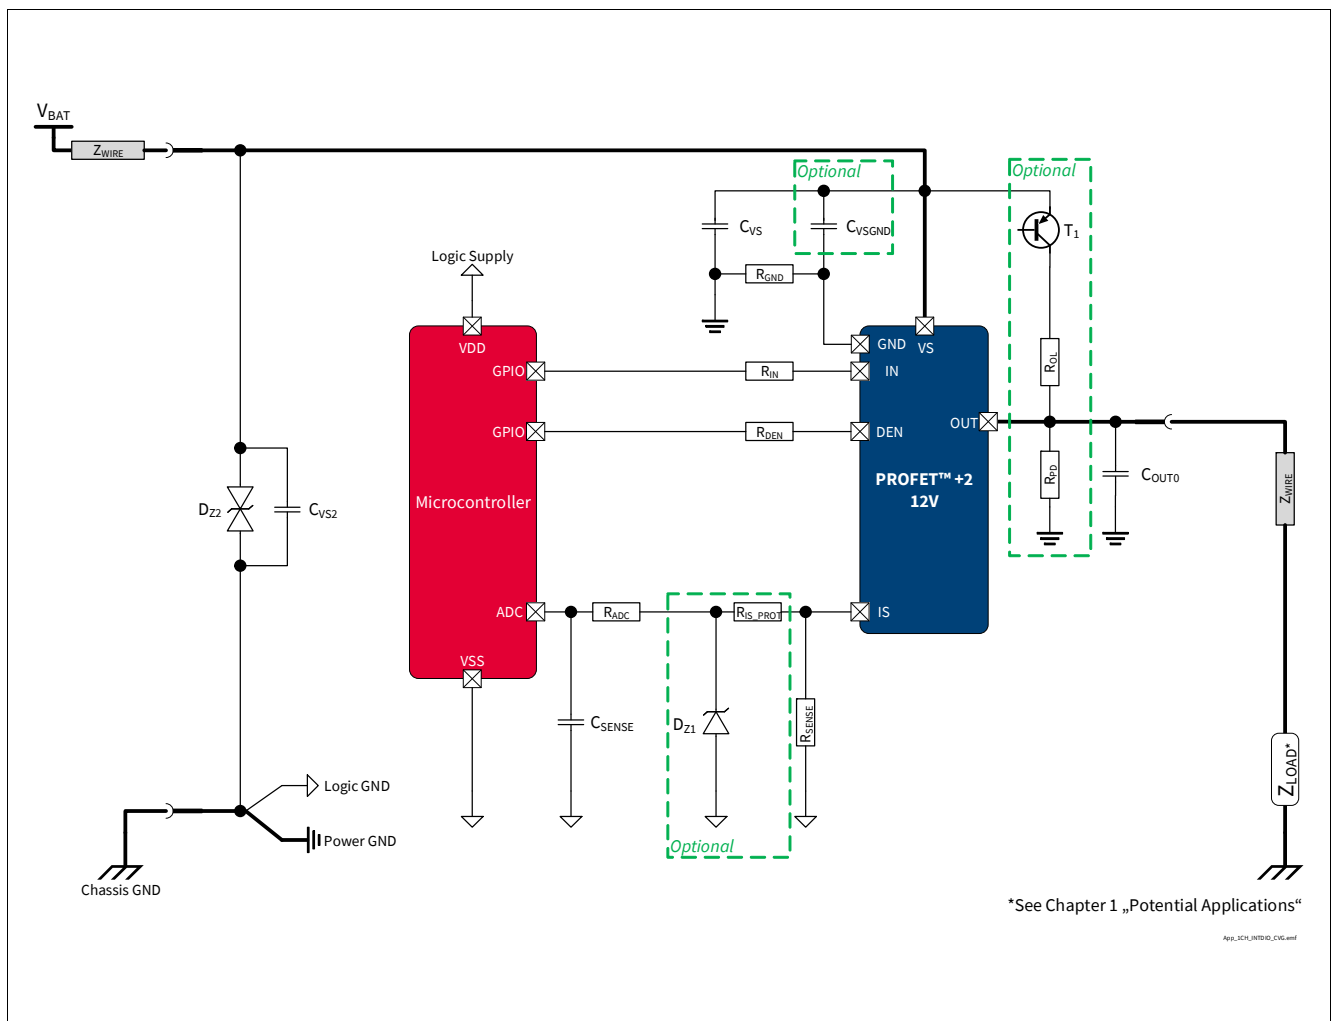

Figure 37 BTS7006-1EPZ Application Diagram
1.10, 2020-12-14	<p>Typo fixed (PROFET™+2 → PROFET™ +2)</p> <p>Figure 1, Figure 16, Figure 17, Figure 18, Figure 20, Figure 21, Figure 22, Figure 25, Figure 29, Figure 30, Figure 34, Figure 37 updated</p> <p>Chapter 1, Chapter 6.1, Chapter 6.1.3, Chapter 6.1.4, Chapter 8.2, Chapter 9.2.2 updated</p> <p>Chapter 8.4.1 updated (typo fixed)</p> <p>P_7.4.5.1, P_7.4.5.2, P_7.4.5.3, P_7.4.5.4, P_7.4.5.6, P_7.4.5.7 updated (added in Note or Test Condition: See Figure 15)</p> <p>P_8.6.4.1 updated (added in Note or Test Condition: See Figure 26)</p> <p>P_8.6.4.2 updated (added in Note or Test Condition: See Figure 27)</p> <p>P_9.6.0.6 updated (Parameter: SENSE Operative Range for k_{ILIS} Operation ($V_S - V_{IS}$) → Saturation Voltage in k_{ILIS} Operation ($V_S - V_{IS}$))</p> <p>P_9.6.0.7 updated (Parameter: SENSE Operative Range for Open Load at OFF Diagnosis ($V_S - V_{IS}$) → Saturation Voltage in Open Load at OFF Diagnosis ($V_S - V_{IS}$))</p> <p>P_9.6.0.8 updated (Parameter: SENSE Operative Range for Fault Diagnosis ($V_S - V_{IS}$) → Saturation Voltage in Fault Diagnosis ($V_S - V_{IS}$))</p> <p>P_9.6.0.20 updated (Parameter: SENSE Operative Range for Fault Diagnosis ($V_S - V_{IS}$) → Saturation Voltage in Fault Diagnosis ($V_S - V_{IS}$))</p>